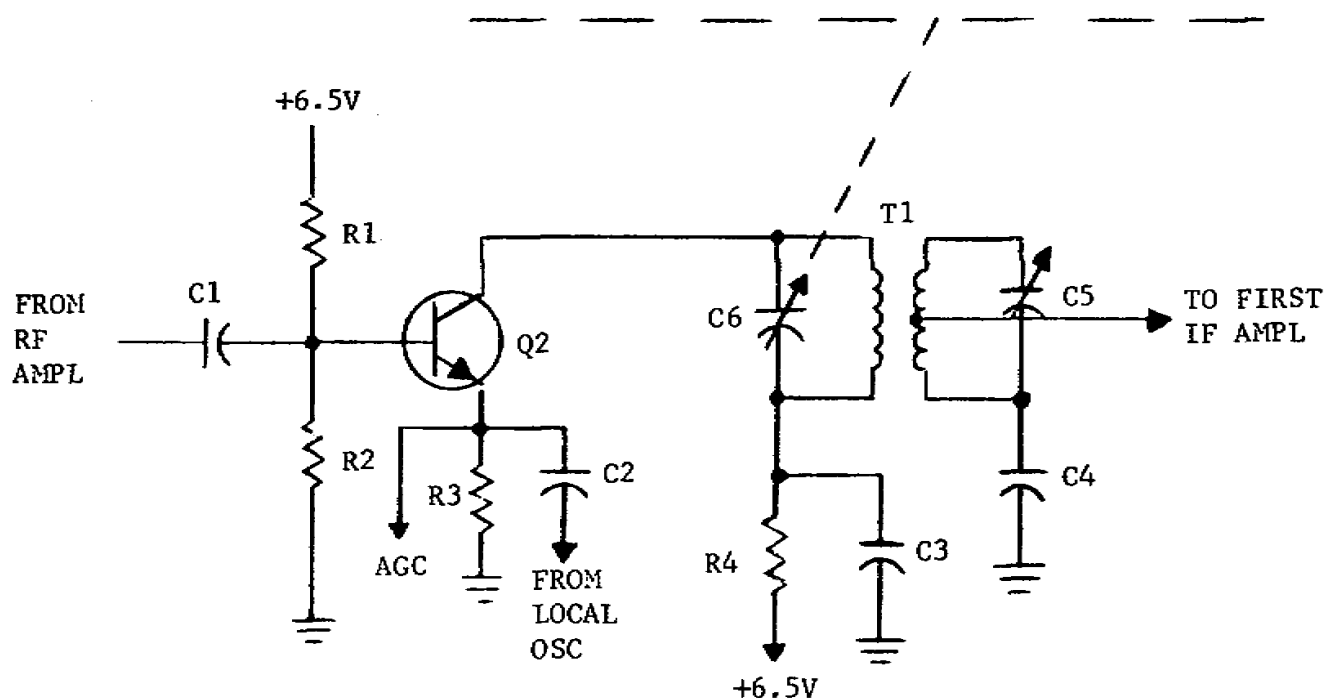

Figure 2-2. Mixer.
A mixer stage using an NPN transistor is shown in figure 2-2. Like the RF amplifier just described, this mixer uses a grounded emitter common to both input and output (base and collector) circuits.
c. Biasing. In figure 2-2, a voltage-dividing network consisting of  $R_1$  and  $R_2$  in series with the +6.5-volt supply biases the emitter-base junction to +1.6 volts. The collector current flowing through stabilizing resistor  $R_3$  produces +0.85 volt, which opposes the +1.6 volts and makes the total bias voltage +0.75 volt. The transistor is being biased in the low-current region, producing nonlinear characteristics. As the local oscillator voltage swings from one signal peak to another, the emitter voltage will change. The negative swing of the oscillator voltage will oppose the 0.85-volt drop across  $R_3$ , thus providing less opposition to the +1.6 volts at the base-emitter junction. This increases the forward bias and causes the transistor to conduct more heavily (not to saturation). The positive swing of the oscillator voltage aids the +0.85-volt drop across  $R_3$ , providing more opposition to the +1.6 volts at the junction. This decreases the forward bias and causes the transistor to conduct less heavily (not to cutoff). As the transistor passes
17. The mixer shown in figure 2-2 of the attached memorandum must operate on the nonlinear portion of its characteristic to achieve efficient mixing action. Efficient mixing action is therefore achieved when the